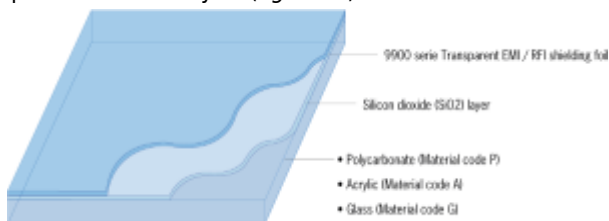

Figure 74.1: Possible structure of an ITO window
- Indium tin oxide (ITO) on foil or glass, 4 or 6mm (transparent foil) (fig. 74.1) **74**
Indium tin oxide coating does not produce a moiré effect and offers good shielding at higher frequencies. The product is however sensitive to acid substances, such as for instance found in fingerprints. Optionally a plastic film layer may be applied in order to protect the ITO layer. (fig. 74.1).